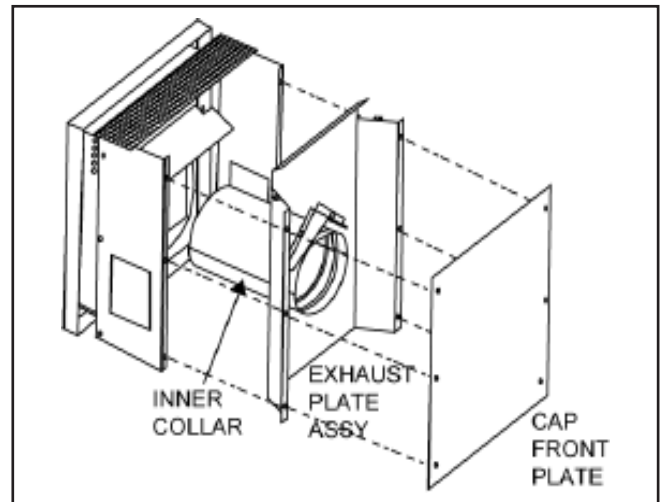

Figure 3 - Exhaust Plate Inner Collar Installation
4. Insert the exhaust plate inner collar into the 8 in. vent pipe until the flanges on the exhaust plate contact the cap surround. See Figure 3.
5. Align the six holes on the cap front plate with the corresponding holes on the exhaust plate and the cap surround. Attach the three pieces together with six of the sheet metal screws provided. See Figure 3.